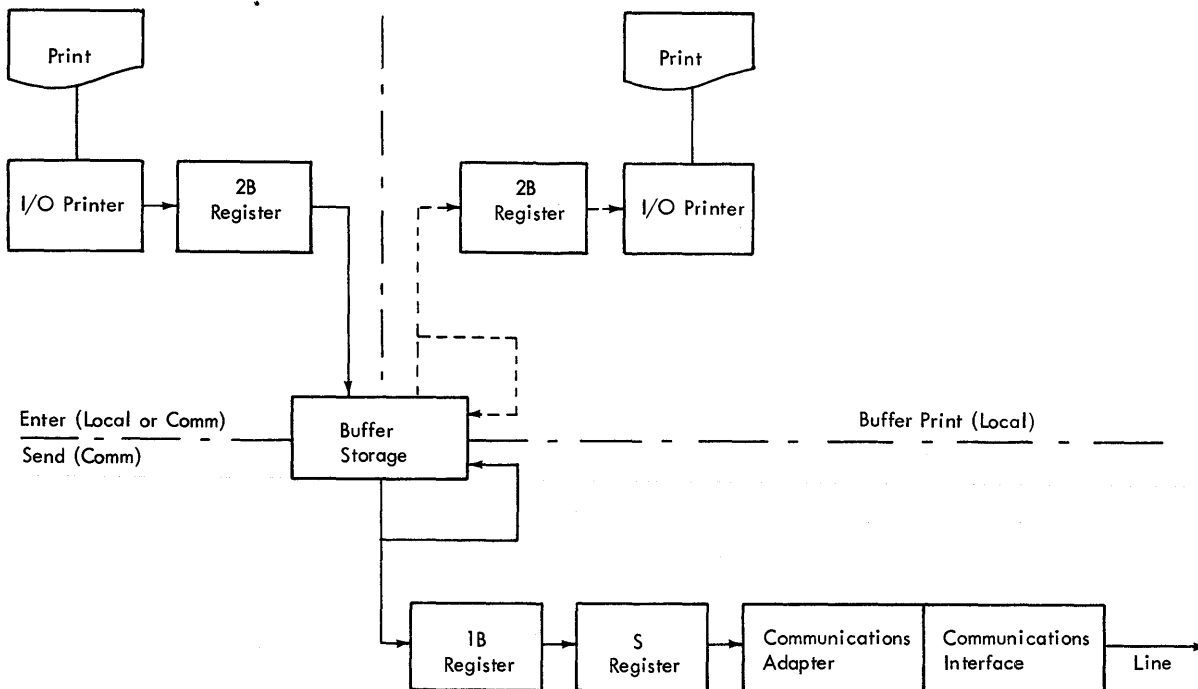

Figure 1-17 Overall Flow of Outgoing Message (2740-2)
2. Type message information on the I/O printer keyboard. Each character is entered into buffer storage as it is typed (Figure 1-17).
3. Press the Bid key. If the I/O is in upper case, it automatically downshifts and the LC shift code stores. The stop code (C) (B with Record Check) stores automatically.
- (a) When in communicate the 2740-2 waits for a poll and sends the message (Figure 1-17).
- (b) When in local, the I/O prints out the stored information and stops where the stop code character is (C or B) stored (Figure 1-17). The Enter light comes on again. The operator has three choices:
- (1) Continue entering from the I/O keyboard. (A downshift will be the last stored character if the last printed character was in upper case.)
- (2) Clear buffer storage and start over.
- (3) Send the message by going to communicate and pressing the Bid key.
With a Buffered Receive terminal, (Figures 1-17 and 1-20), there are four basic data flow routes at three character rates, as shown in the following table: